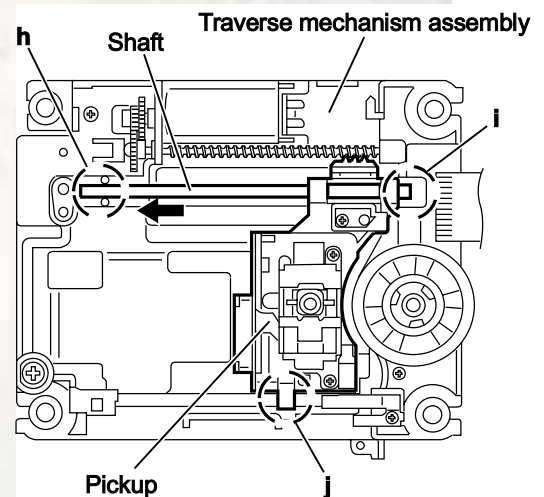

Fig.8
- Remove the shaft of the pickup from the section **h** on the traverse mechanism assembly and remove the shaft from the section **i** while moving it in the direction of the arrow. (See Fig.8.)
- Remove the pickup from the section **j** of the traverse mechanism assembly and take out the pickup with the shaft. (See fig.8.)
- (2) Align the pickup to the section **j** of the traverse mechanism assembly first, and set the both ends of the shaft of the pickup in the sections **g** and **i** of the traverse mechanism assembly. (See Fig.8.)